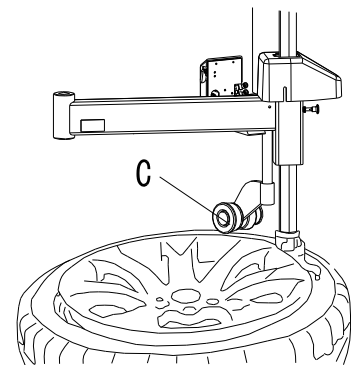

Fig 11
3. Nearby demounting/mounting head, insert lift lever N into tyre, use lift lever to lift bead upon knob of demounting / mounting head. Manually rotate roller C to inner side, pull handle D down, make roller C to press rim, keep 3-5mm gap between demounting/mounting head and rim, make sure demounting/mounting head not damage rim, rotate turntable, demount tyre upper bead (Fig 11)